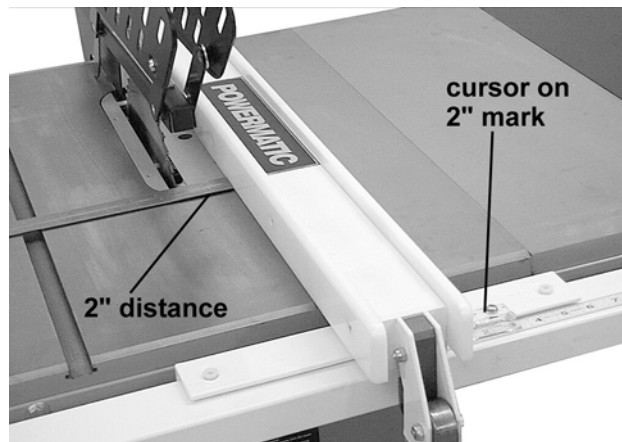

Figure 19
6. Adjust the cursor (Figure 19) to read the distance just measured and tighten the cursor assembly to the fence.